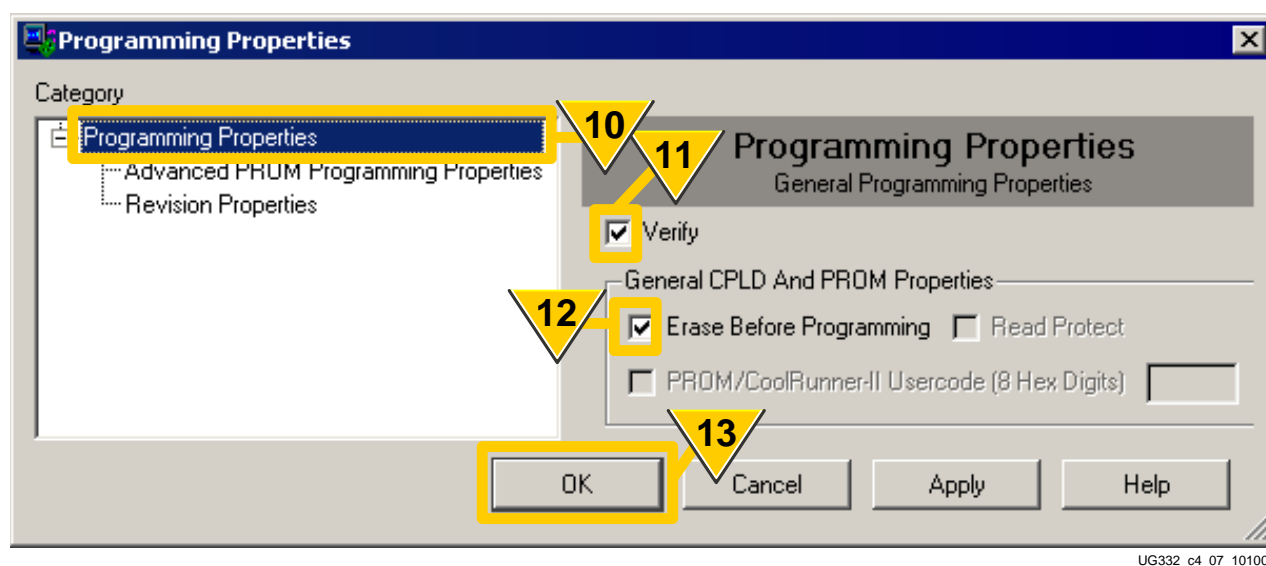

Figure 12-10: SPI PROM Programming Options
10. Click the **Programming Properties** option under **Category**, as shown in Figure 12-10.